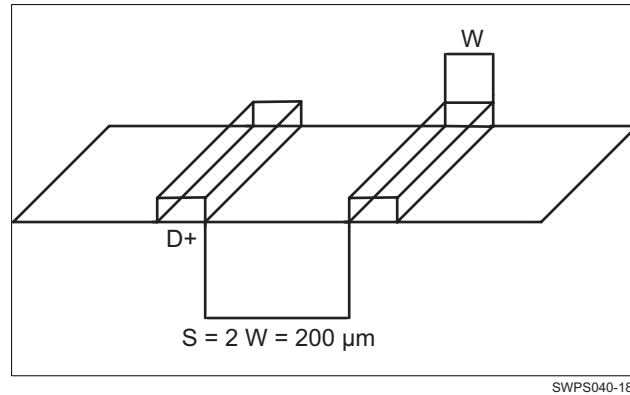

Figure 8-28. Ground Guard Illustration
- For a line width equal to W , the spacing between two lines must be $2W$, at least. This minimizes the crosstalk between switching signals between the different lines. On the PCB, this is not achievable everywhere (for example, when breaking signals out from the device package), but it is recommended to follow this rule as much as possible. When violating this guideline, minimize the length of the traces running parallel to each other (see Figure 8-28).